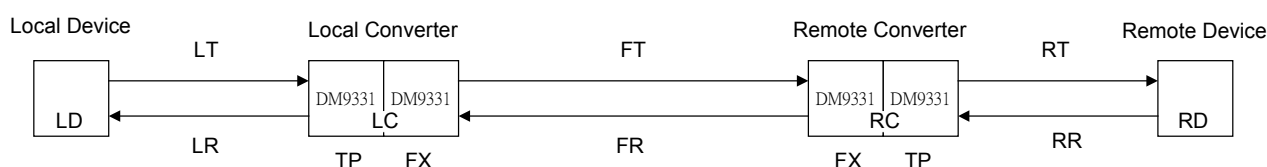

Figure 10
Figure 10 shows the DM9331 to the DM9331 connection. The whole path is separated into local device (LD), local